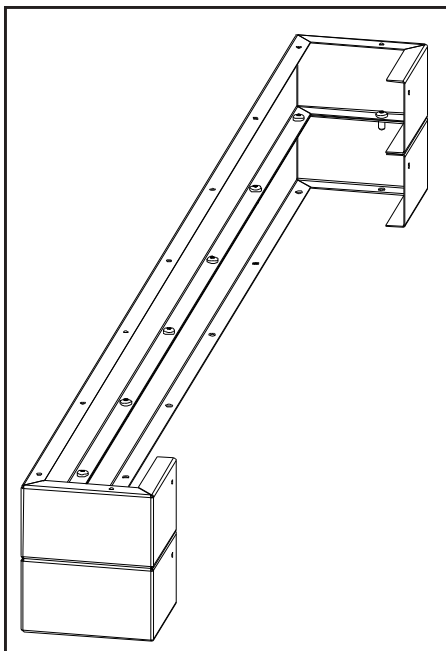

Figure 39: Combining 2 Base Shelf Riser.
2. When using more than one riser each level must be attached using nine (9) #8 T-20 screws provided (see Figure 39).